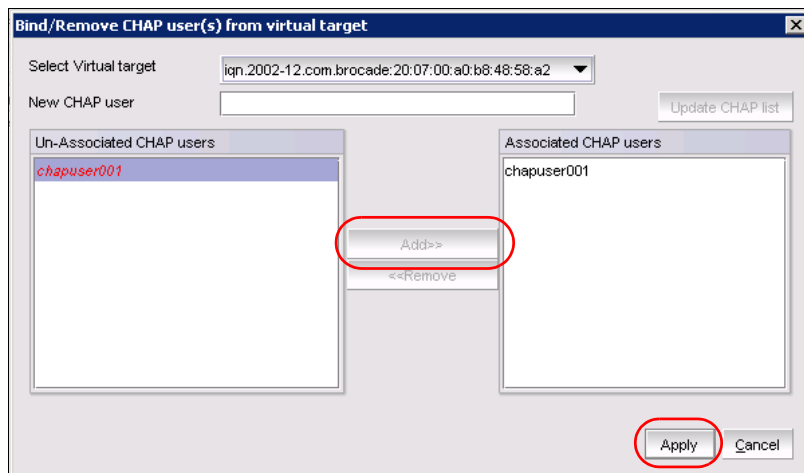

Figure 11-68 Associate CHAP users to iSCSI VTs
6. Select **chapuser001** in the Un-Associated CHAP users list, click **Add** to add chapuser001 to the Associated CHAP users list, and click **Apply** to commit the change. See Figure 11-68.